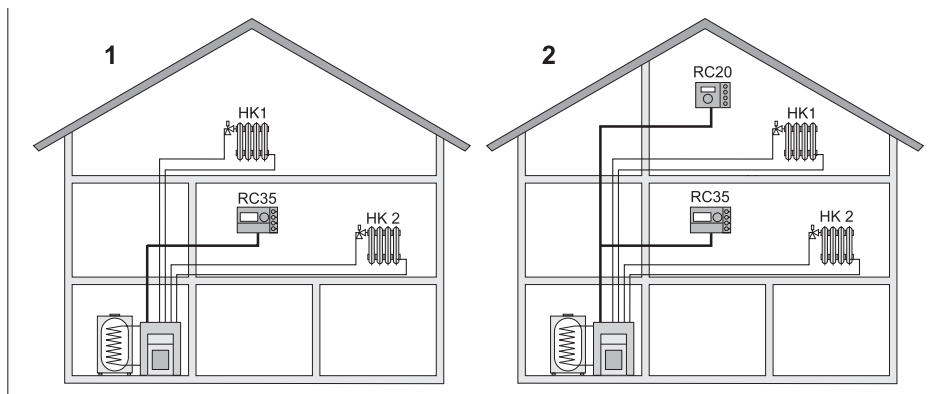

Fig. 2 Options for a heating system with two heating circuits
- As the only programming unit in a heating system with two or more heating circuits¹ (Fig. 2, **1**).
- In conjunction with a remote control unit (e.g. RC20/RC20RF, Fig. 2, **2**). In this case there are always two separate heating circuits. Remote control units cannot be used with boilers with UBA1.x.